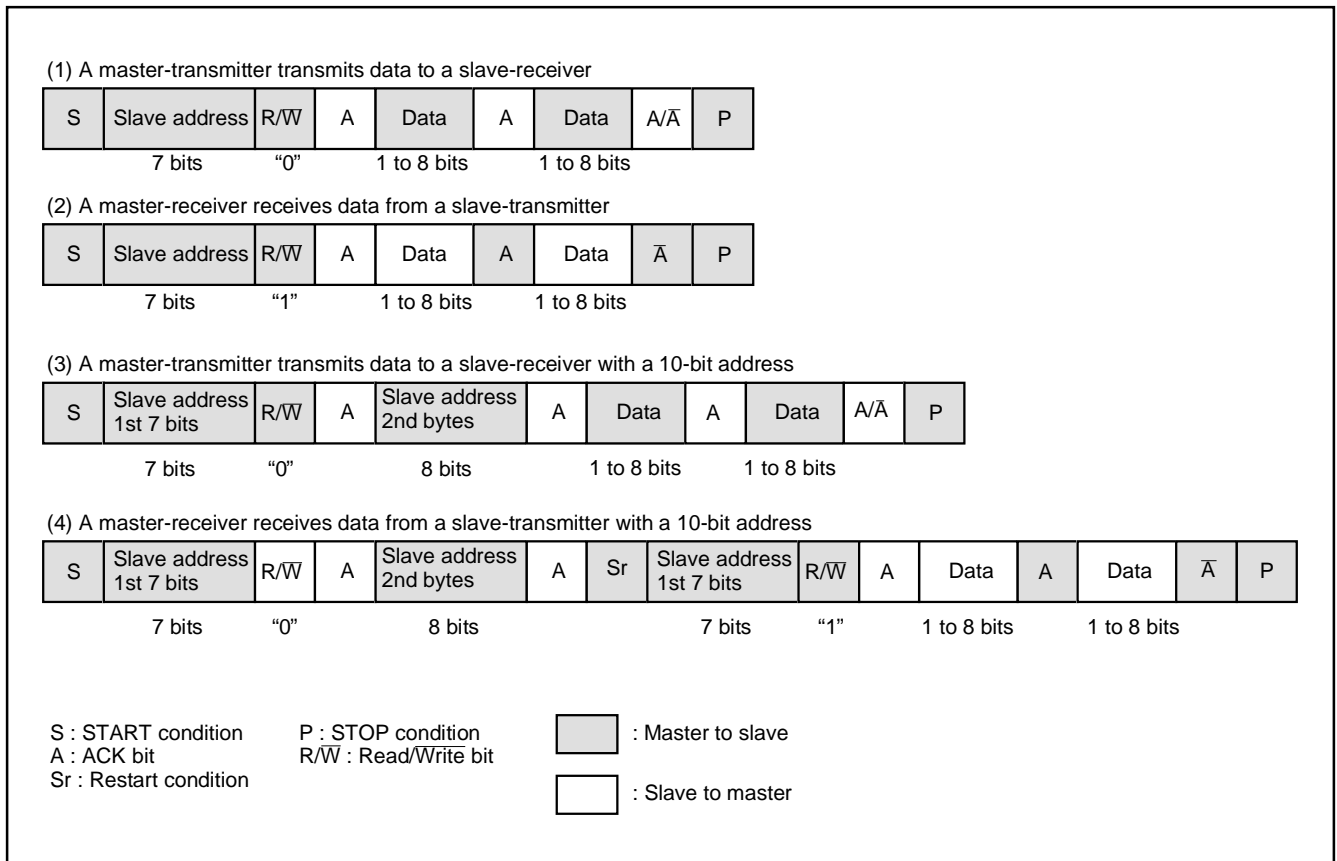

Fig. 77 Address data communication format
① 7-bit addressing format
To adapt the 7-bit addressing format, set the 10BIT SAD bit of the I2C control register (S1D: address 001416) to "0". The first 7-bit address data transmitted from the master is compared with the high-order 7-bit slave address stored in the I2C slave address register. At the time of this comparison, address comparison of the RWB bit of the I2C slave address register is not performed. For the data transmission format when the 7-bit addressing format is selected, refer to Figure 77, (1) and (2).
② 10-bit addressing format
parison, an address comparison between the RWB bit of the I2C slave address register and the  $R\bar{W}$  bit which is the last bit of the address data transmitted from the master is made. In the 10-bit addressing mode, the RWB bit which is the last bit of the address data not only specifies the direction of communication for control data, but also is processed as an address data bit. When the first-byte address data agree with the slave address, the AAS bit of the I2C status register (S1: address 001316) is set to "1." After the second-byte address data is stored into the I2C data shift register (S0: address 001116), perform an address comparison between the second-byte data and the slave address by software. When the address data of the 2 bytes agree with the slave address, set the RWB bit of the I2C slave address register to "1" by software. This processing can make the 7-bit slave address and  $R\bar{W}$  data agree, which are received after a RESTART condition is detected, with the value of the I2C slave address register. For the data transmission format when the 10-bit addressing format is selected, refer to Figure 77, (3) and (4).